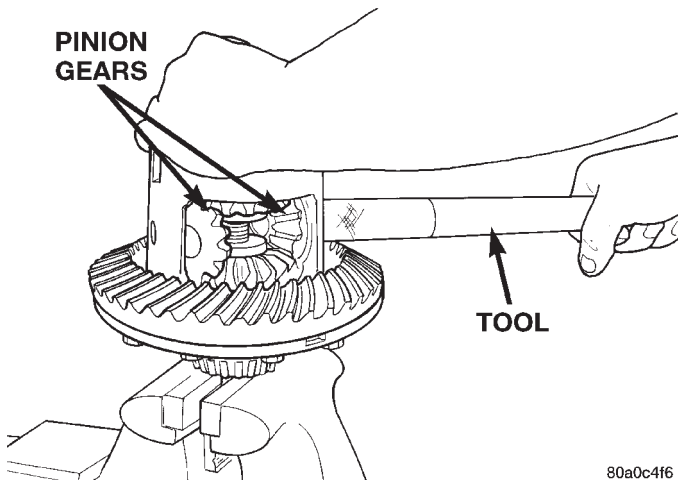

Fig. 49 Pinion Gear Removal
(11) Loosen the forcing screw tool until the clutch pack tension is relieved and the pinion gears can be slightly rattled between the case and side gears.
(12) Insert Turning Bar C-4487-4 in case. Rotate case with tool until pinion gears can be removed (Fig. 49).